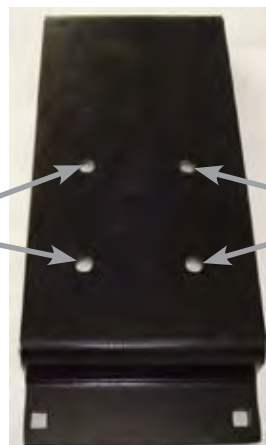

fig. 3
4. The lower bracket has holes in it for a left and right hand installation (fig. 3).